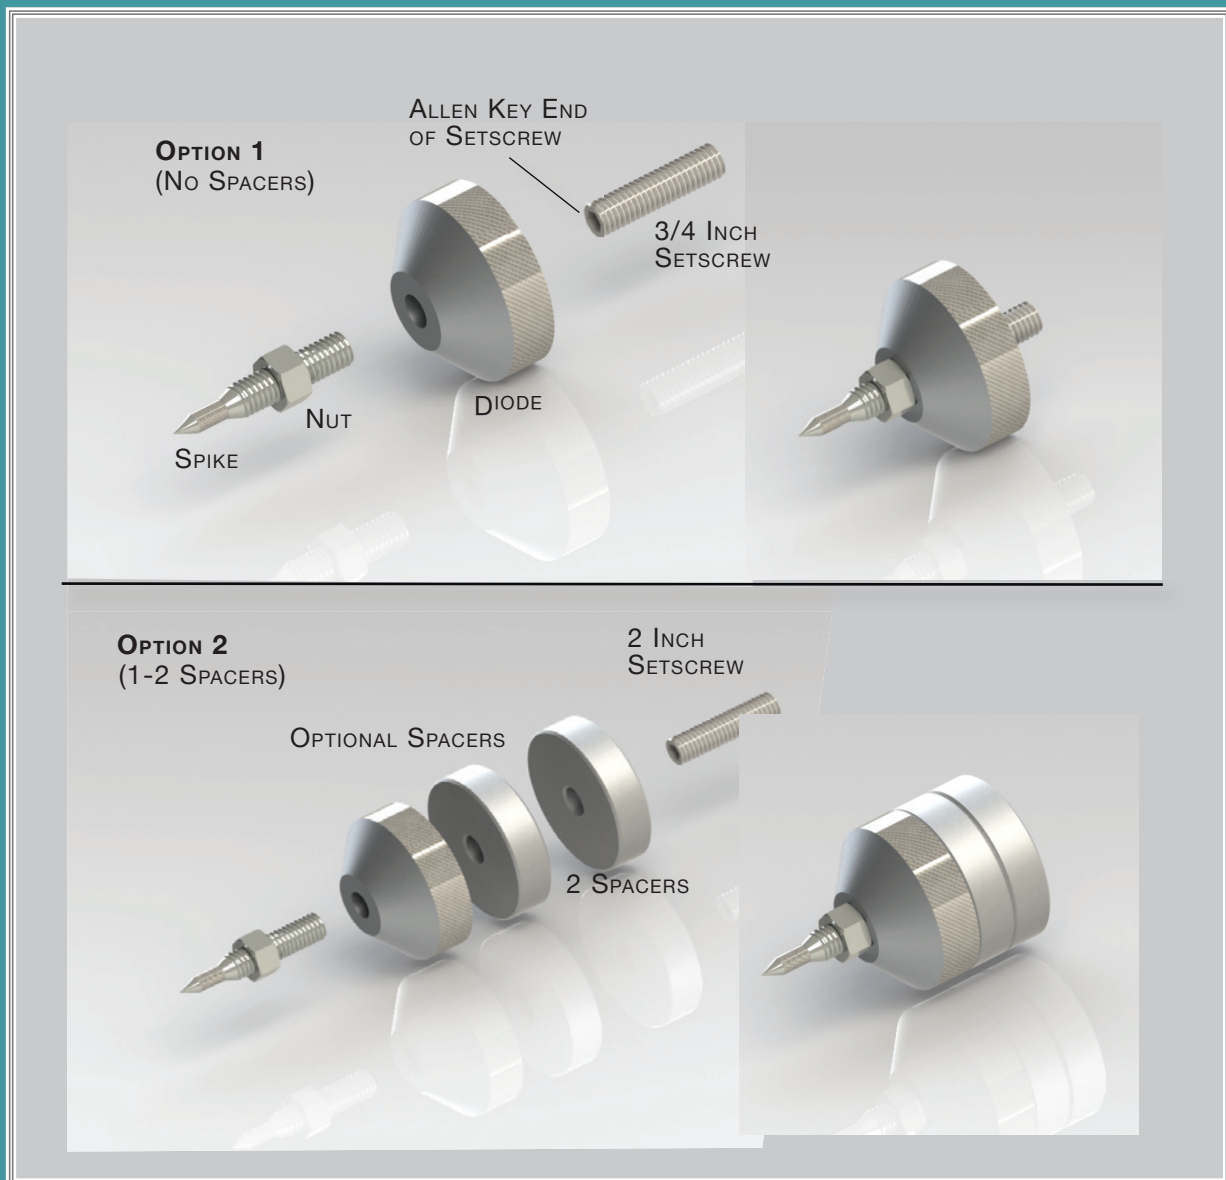

FIGURE 5 – MEZZO SPIKES ASSEMBLY DIAGRAM
2. Assemble the front spikes with the listed diode/spacer combination in Table 1 (see also Figure 5).